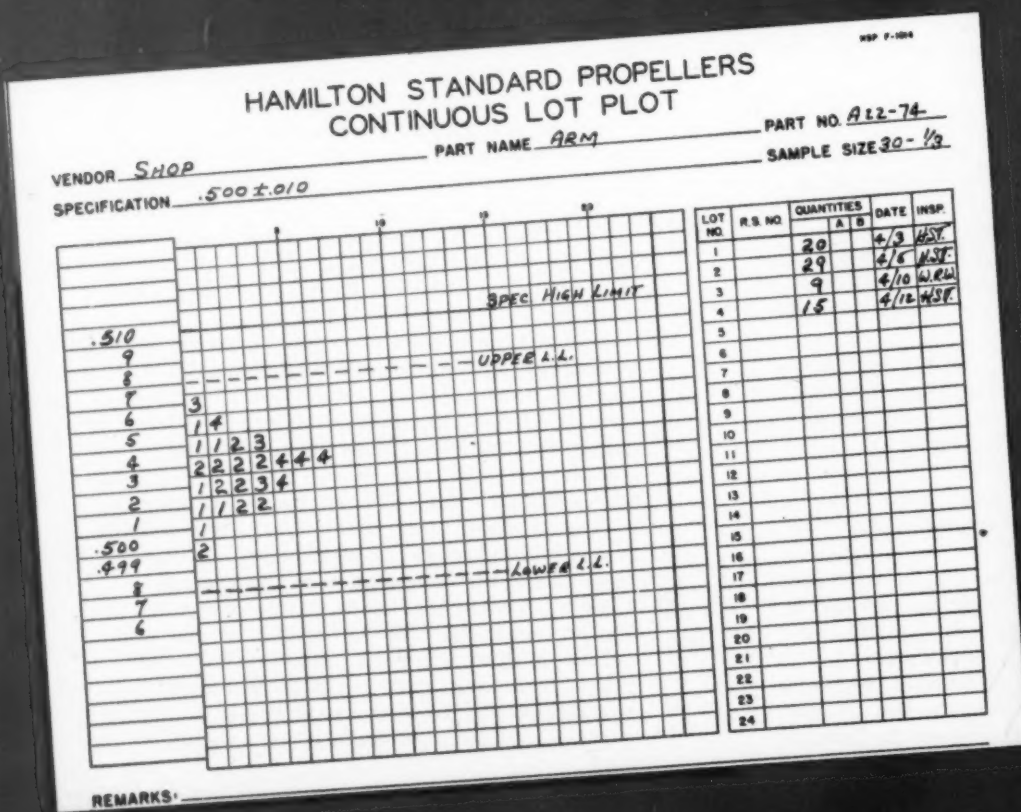

Fig. 27 — Continuous Lot Plot shows whether there has been a change in the process which necessitates a differing inspection rate
13. Enter the results of the future sampling of one out of every three pieces on the Continuous Lot Plot form shown in Fig. 27. The "1's" here correspond to the pieces sampled from the first lot, the "2's" from the second lot, and so forth.